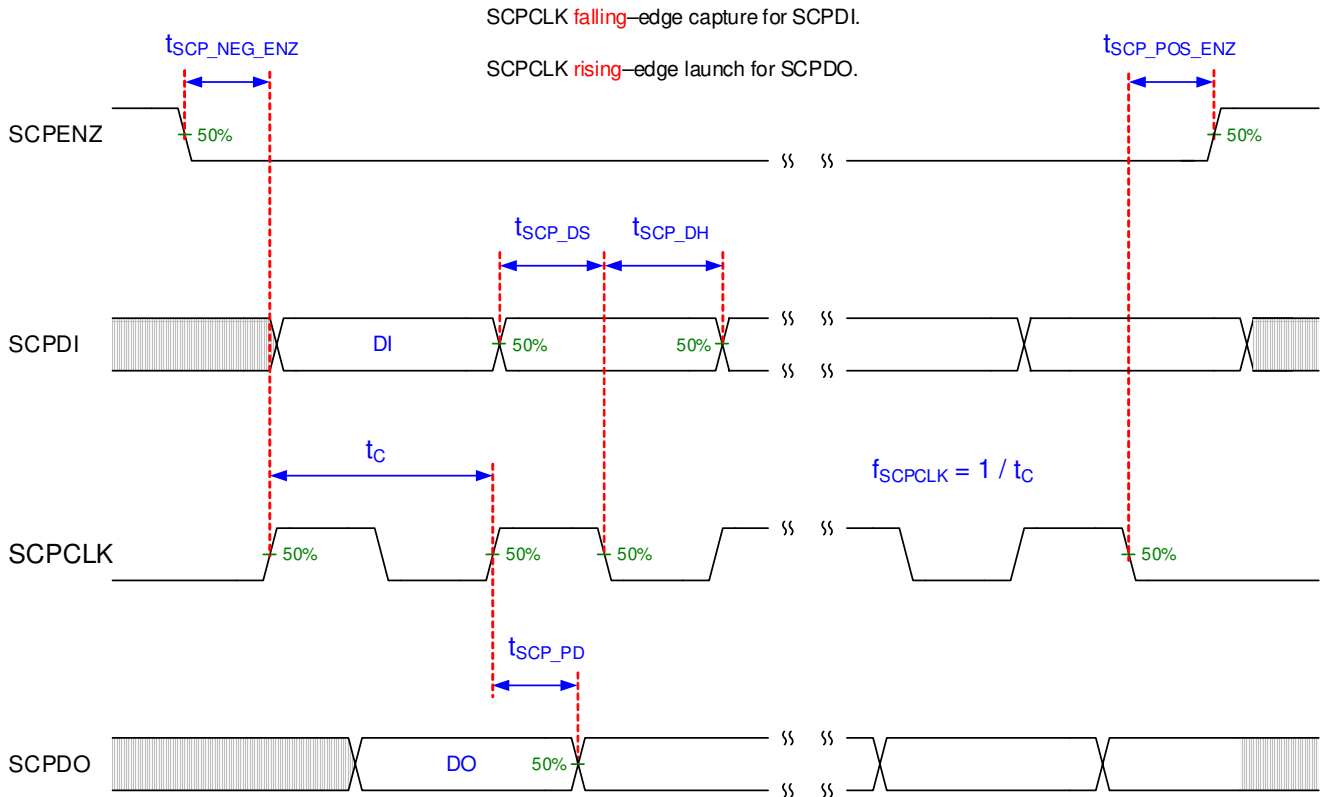

Figure 6-2. SCP Timing Requirements
- (5) Low-speed interface is LPSDR and adheres to the Electrical Characteristics and AC/DC Operating Conditions table in JEDEC Standard No. 209B, "Low-Power Double Data Rate (LPDDR)" JESD209B. Tester Conditions for VIH and VIL.
- (6) PWRDNZ input pin resets the SCP and disables the LVDS receivers. PWRDNZ input pin overrides SCPENZ input pin and tristates the SCPDO output pin.
- (7) The SCP clock is a gated clock. Duty cycle must be $50\% \pm 10\%$. SCP parameter is related to the frequency of DCLK.
- (8) See Figure 6-2.